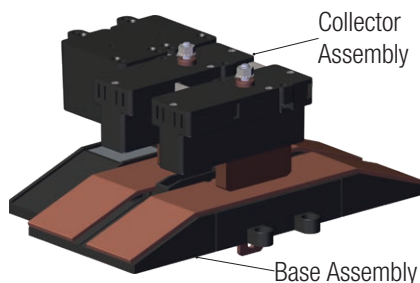

Figure: 4-1
4.1.2 Charging contacts are sold as individual components, base and collector. See **Figure: 4-1** for additional details.